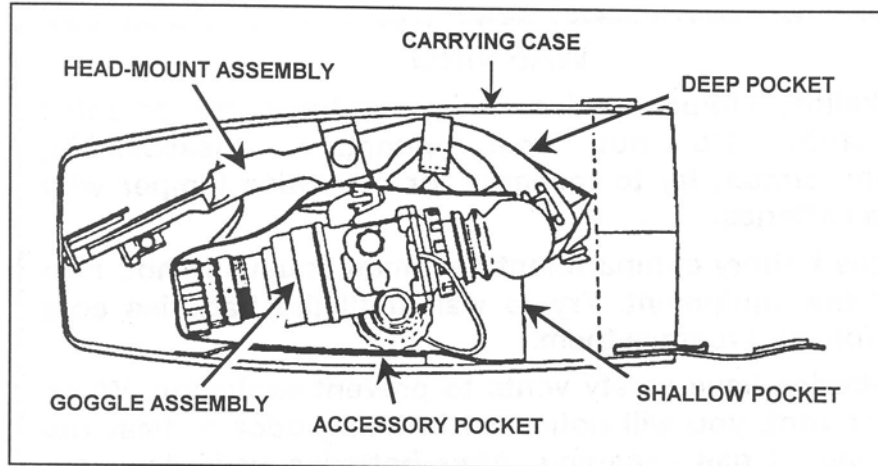

Figure 5. Stow goggles in carrying case.
- (1) Position the OFF-ON-PULL/IR switch to ON. Note the green glow that gradually appears in each eyepiece.
- (2) Pull the OFF-ON-PULL/IR knob. Rotate it clockwise to the IR position. Note the red light that appears in the left eyepiece, which indicates that the IR source is operating. The IR source is located on the left front of the goggles. Do not block the IR source when operating the goggles.
- (3) Turn the OFF-ON-PULL/IR switch counterclockwise to the OFF position. Note that the red light and green glow disappear.
- (4) Shut down the goggles by positioning the OFF-ON-PULL/IR switch to OFF.
5. Stow the goggles (Figure 5).